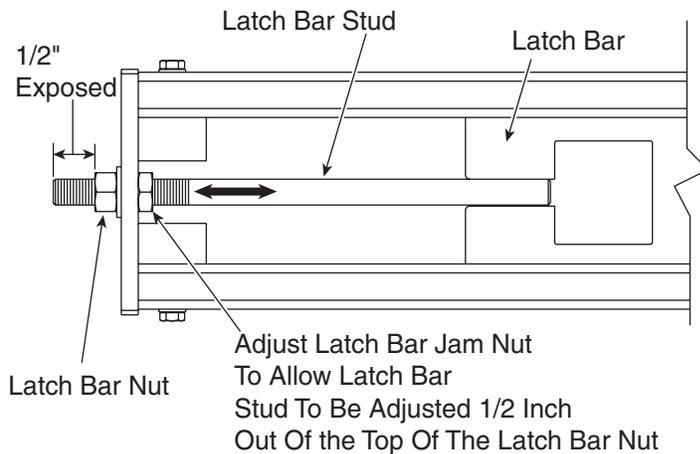

Fig. 9
B.) After column top plates have been installed adjust latch bar nut and latch bar jam nut, Fig. 9.